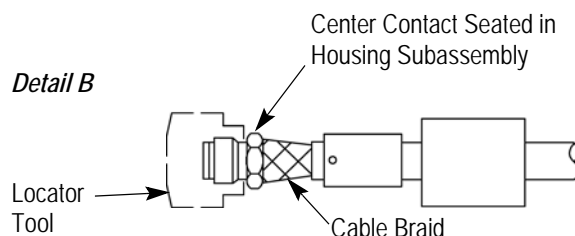

Figure 3
conductor until it rests firmly against the solder gage. See Figure 3, Detail A. Remove the solder gage from the cable. Remove excess solder and splatter.
- Insert the center contact into the back of the housing subassembly until the center contact is seated firmly. Make sure that the braid does not enter the housing subassembly. See Figure 3, Detail B.